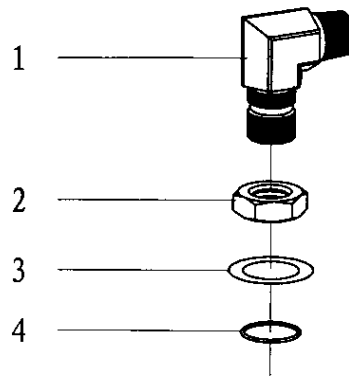

Fig. 7-13
13. Bend sub (1 5/16-12UN) (Fig 7-13, Table 13)